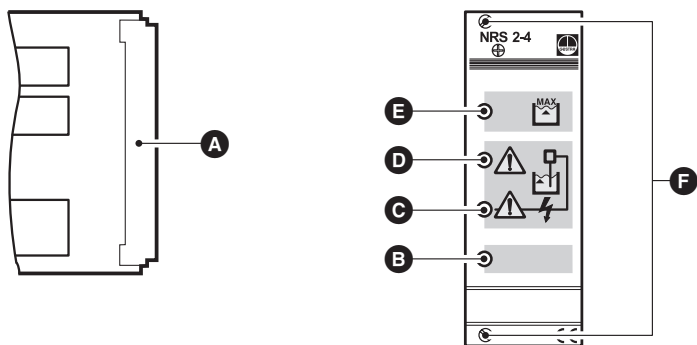

Fig. 2
Apply mains voltage. The green LED **B** is illuminated. **Fig. 2**
1. When switching on the mains voltage the green LED **B** must be permanently illuminated. **Fig. 2**